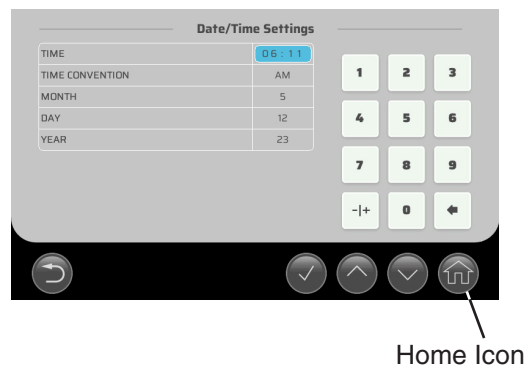

Fig. 11
- 8) Press the home icon to return to the touchscreen setup view. See Fig. 11.